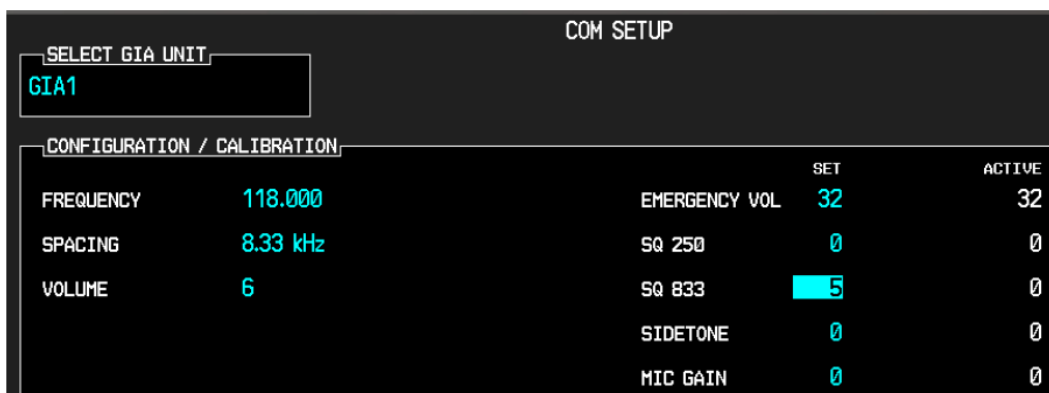

Figure 4-8. COM Setup Page SQ 833 Value
9. For 8.33 kHz operation, adjust the SQ 833 value. It can be set to any value between -100 and +100. The higher the number, the more signal is required to break squelch (see Figure 4-8).